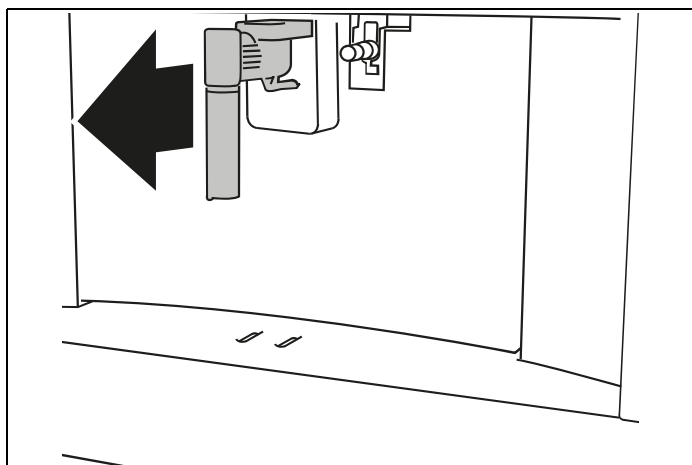
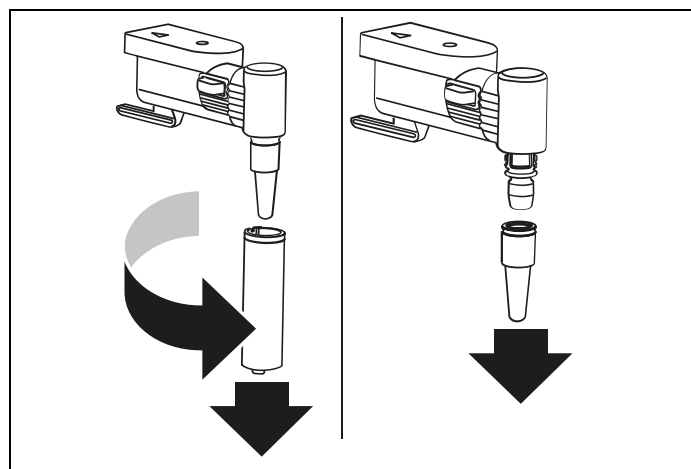

Fig. 33
Fig. 40
Remove the hot water/steam spout (**C6**) (Fig. 33);
- 2) Wait a few minutes for the hot water/steam spout to cool down; then extract it (Fig. 33). Hold the spout steady with one hand and with the other, turn and detach the cappuccino maker pulling it downwards (Fig. 40).
- 3) Also remove the steam connection nozzle by pulling it downwards (Fig. 40).